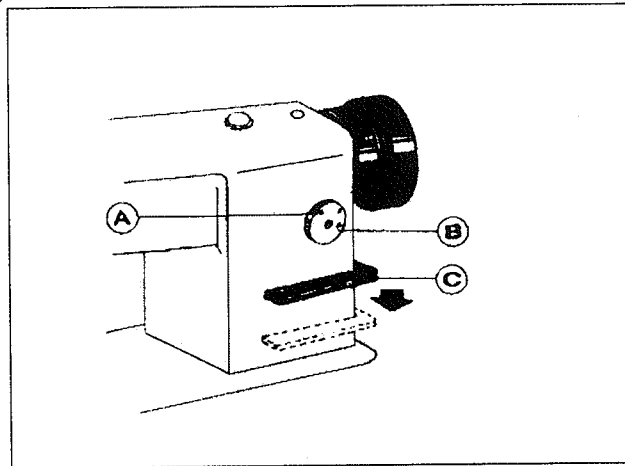

Fig. 9
10. SET STITCH LENGTH AND REVERSE FEEDING (Fig.9)